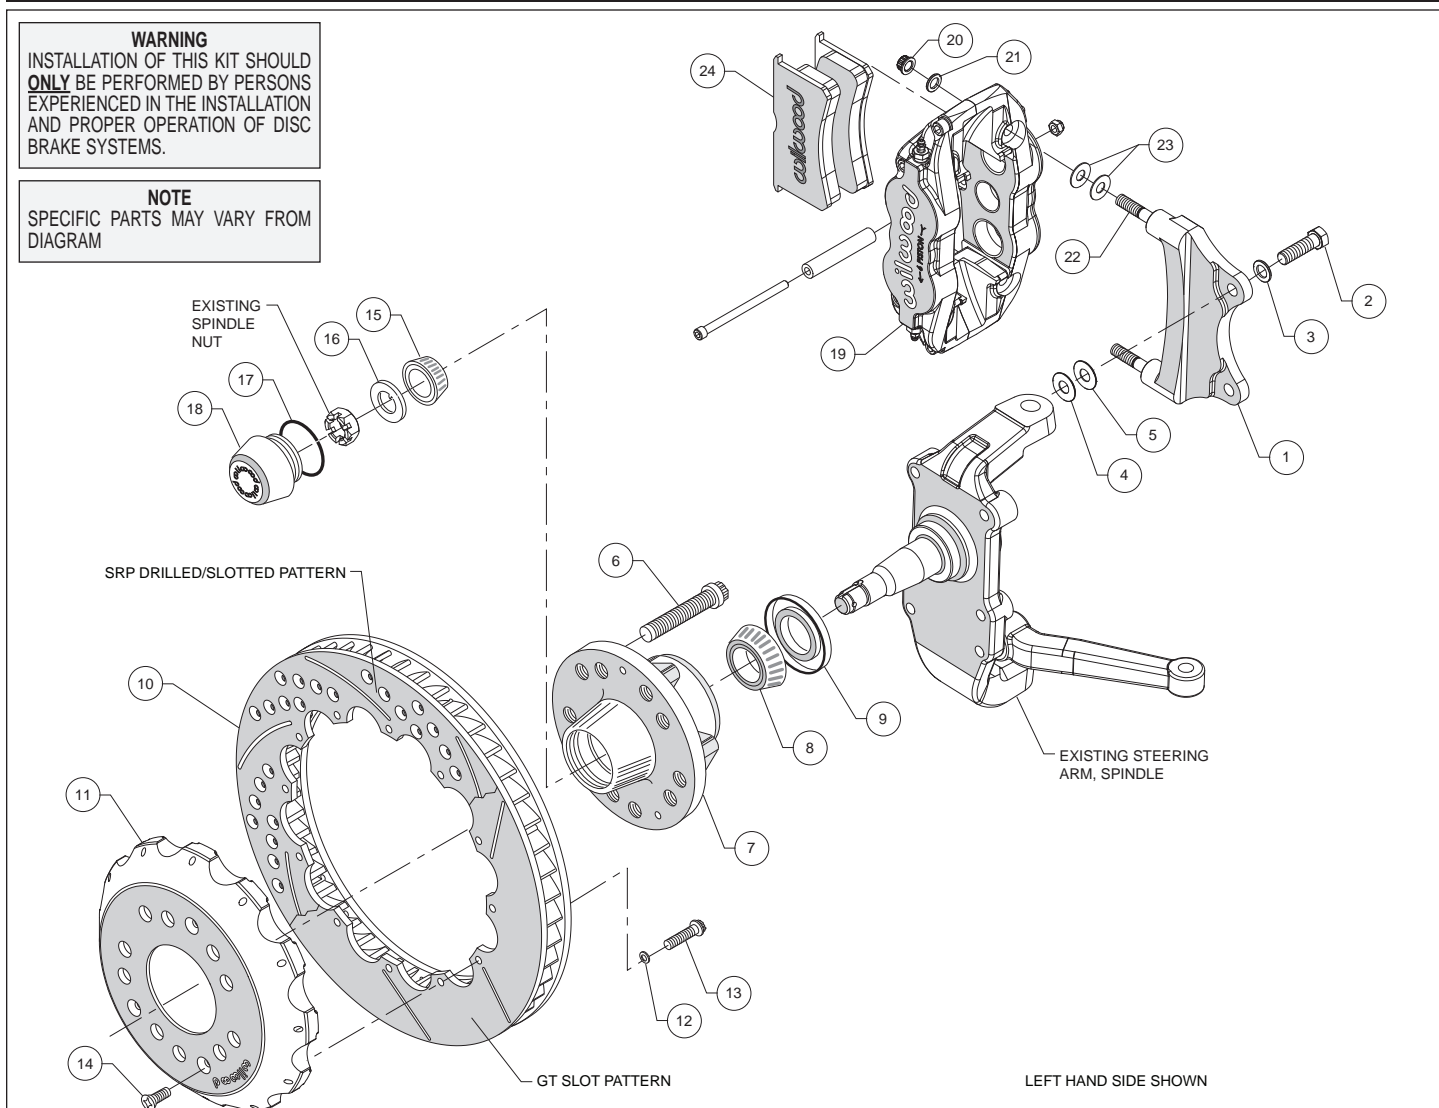
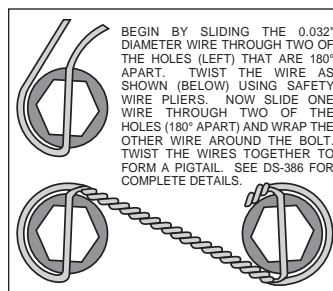

Figure 1. Typical Installation Configuration
Figure 3. Safety Wire Diagram
**Assembly Instructions** (numbers in parenthesis refer to the parts list on the preceding page, and Figure 1):
- The caliper mount bracket (1) should initially be installed with clean, dry threads on the mounting bolts. Orient the bracket as shown in Figure 1, and install using bolts (2) and washers (3). Initially place one each .016" thick shim (4) and .030" thick shim (5) on each bolt between the bracket and upright, Figure 1 and Photo 1. Temporarily tighten the mounting bolts. **NOTE: The bracket must fit squarely against the mount bosses on the upright.** Inspect for interference from casting irregularities, machining ridges, burrs, etc. Later, after the caliper alignment has been checked, the mount bolts will be secured using red *Loctite*® 271.
- Pack the large inner bearing cone (8) with high temperature disc brake bearing grease (available from your local auto parts store) and install into the backside of the hub (7), Photo 3.
- Install the grease seal (9) by pressing into the backside of the hub (7), flush with the end of the hub, Photo 3.
- Orient the rotor (10) and the hat (11) as shown in Figure 1 and Photo 4. Attach rotor to hat using bolts (13) and washers (12). Using an alternating sequence, apply red *Loctite*® 271 to the threads, and torque to 155 **in-lbs**. For an added measure of security, the bolts may be safety wired using standard 0.032 inch diameter stainless steel safety wire as shown in Figure 3. Refer to Wilwood's data sheet DS-386 (available at [www.wilwood.com/Pdf/DataSheets/ds386.pdf](http://www.wilwood.com/Pdf/DataSheets/ds386.pdf)) for complete safety wire installation instructions.
- Slide the hat/rotor assembly (10/11) onto the hub (7) taking care to align the small countersunk holes in the hat (11) with the small threaded holes in the hub. **NOTE:** The hat must fit flush against the hub face or excessive rotor run out may result. Install three flat head screws (14) through the small holes in the hat (11), Photo 6, and torque to 85 in-lb.
- NOTE:** This kit contains distinct right and left hand calipers that must be mounted in a specific direction, as described below. Lubricate the caliper mounting studs (22) with lightweight oil. Initially place two .035" thick shims (23) on each stud between the caliper and the bracket, as shown in Figure 1 and Photo 7. Mount the caliper (19) onto the bracket (1) using lock nuts (20) and washers (21), Figure 1. Ensure that the caliper is mounted so the largest pistons are at the rotor exit end of the caliper, in relation to the direction of rotor rotation. Temporarily tighten the lock nuts and view the rotor through the top opening of the caliper. The rotor should be centered in the caliper, Photo 8. If not, adjust by adding or subtracting shims (4 and/or 5) between the bracket and the upright. Always use the same amount of shims on each of the two mounting bolts. Once the caliper alignment is correct, remove the bracket mounting bolts one at a time, apply red *Loctite*® 271 to the threads, and torque to 55 ft-lb.